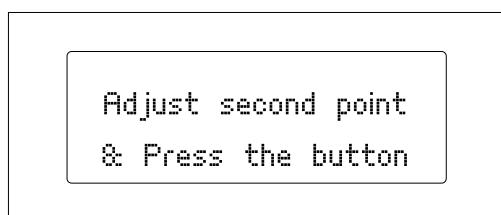
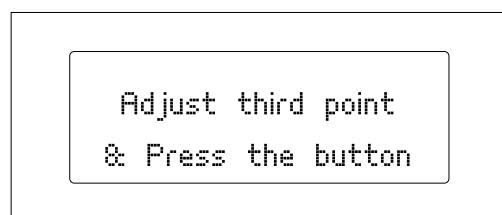

Figure 3.13 Second levelling point
Figure 3.14 Third levelling point
- ③ Press the control wheel again and the extruder will move onto the second calibration point (fig. 3.13). Repeat the process above and then do the same for the third calibration point (fig. 3.14).